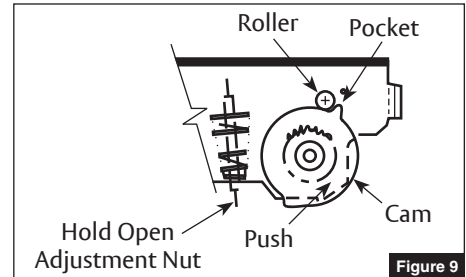

Figure 9
- d. Raise or lower cam and rotate until pocket of cam is in position next to roller. (Figure 9)
4. Adjust hold open nut. Figure 9